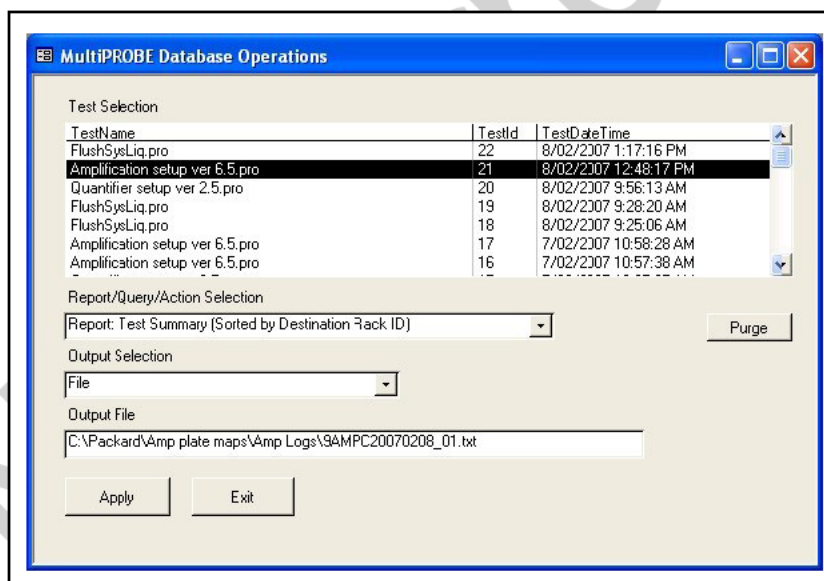

Figure 4. The MultiPROBE log database for collecting MP II run information
50. In the Output Selection dropdown menu, select “File”. Save the output file as *.csv format to **C:\PACKARD\EXT PLATE MAPS\EXT LOGS** with the same name as the AUSLAB batch ID and click “Apply”. (refer to figure 4. below)